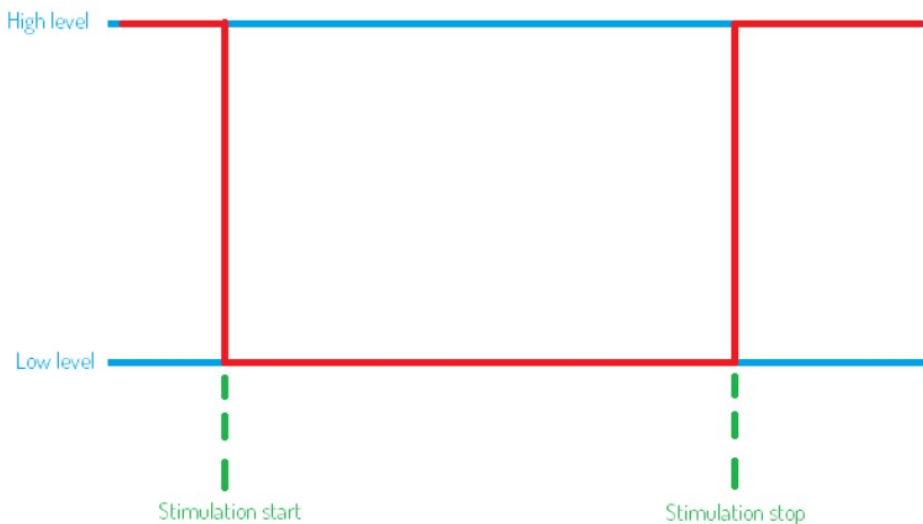

Figure 90. Trigger out setup for level low.
- Level Low (LL) – As above, only used for signalling the following events: Start or Stop of the stimulation. When stimulation is being administered the signal level is low. When there is no stimulation the signal level is high (Figure 90)